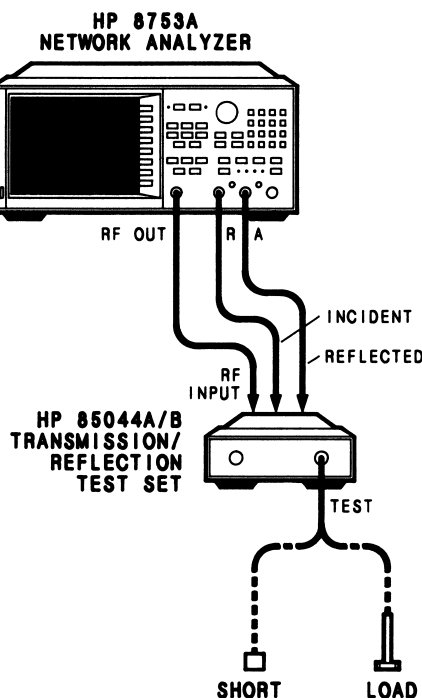

Figure 4-1. Directivity Test Setup.
1. Connect the equipment as shown in Figure 4-1 and turn on the HP 8753A. Allow 30 minutes for warm-up.